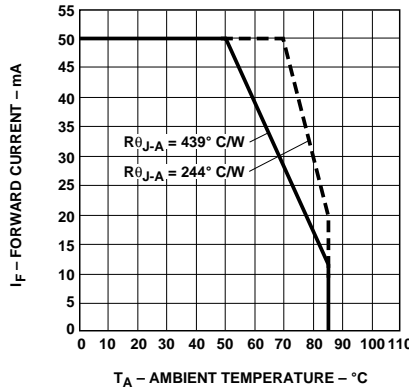

Figure 4. Maximum Forward Current vs. Ambient Temperature. Derating Based on $T_J \text{ Max} = 95^\circ\text{C}$.
1. Derate linearly as shown in Figure 4.